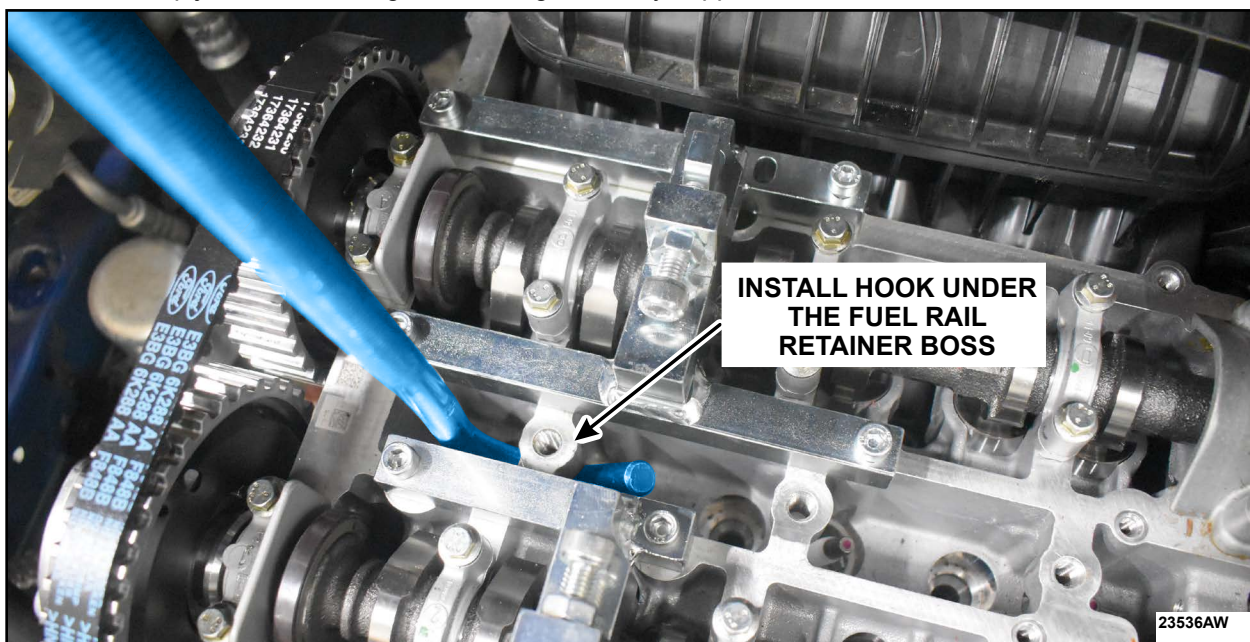

FIGURE 9
15. Install the J hook tool under the first fuel rail retainer boss as shown in Figure 9. Then, tighten the J hook clamp just until the weight of the engine is fully supported.